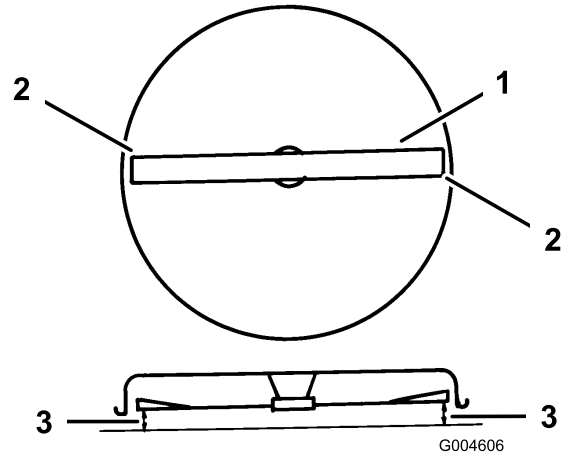

Figure 41
9. Carefully rotate the blade side to side (Figure 41).
10. Measure between the outside cutting edges and the flat surface (Figure 41). If both measurements are not within 3/16 inch (5 mm), adjust it; refer to steps 11 through 14.